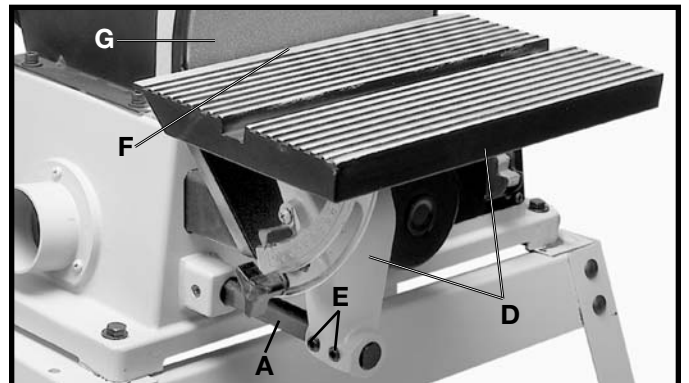

Fig. 15
2. Slide table assembly (D) Fig. 15, onto rod (A). Align flat on rod (A) with set screws (E) and tighten screws to hold table assembly (D) in position on support rod (A).
3. **⚠️ WARNING:** To avoid trapping the work or fingers between sanding disc and table, the table edge (F) Fig. 15, should be positioned a maximum of 1/16" away from sanding disc (G). Loosen screws (E) and adjust table accordingly.